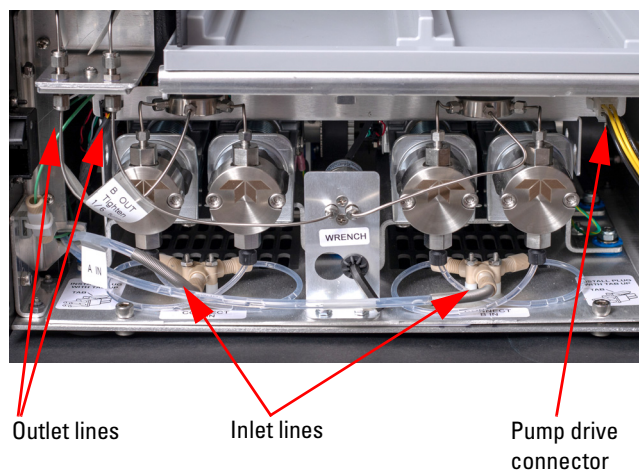

Figure 5-20 Pump assembly
5. Remove the two stainless steel outlet lines connected to the bulkhead fittings using a $\frac{1}{4}$ " wrench. Remove the two bottom inlet lines going to the bottom 'Y' fittings and disconnect the pump drive connector (Figure 5-20).
6. Remove the Pump Communication Connection located behind the right side arrow pointing to the outlet lines (Figure 5-20).